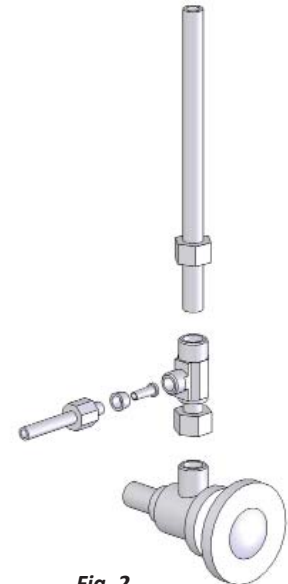

Fig. 2
4. Take the 1/4" feed connector from the parts kit and install it into the brass feed connector adapter. Use a crescent wrench or open-end wrench to tighten the connector into the adapter. See Fig. 2.